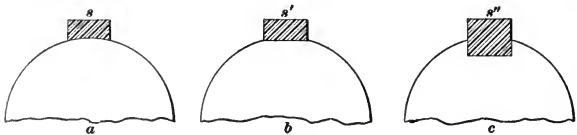

FIG. 40.
87. Keys for fastening pulleys to shafts in order to cause them to rotate together belong usually to one of the three classes shown in Fig. 40. The one shown at *a* is a concave key that is hollowed out to fit the shaft. As it holds the pulley by friction alone, it is only suitable for light work. In case such a key slips, its holding power can be increased a little by hollowing out its concave side to a radius smaller than
the radius of the shaft. The flat key is shown in Fig. 40 at *b*; a flat surface is cut on the shaft, and, consequently, the key is more effective than the concave key, as far as slipping under a rotative strain is concerned. The sunk key shown in Fig. 40 at *c* is the most effective, since it is impossible for the pulley to turn on the shaft without shearing off the key. Keys for fastening pulleys, etc. are usually given a taper of from  $\frac{1}{8}$  to  $\frac{1}{4}$  inch per foot.